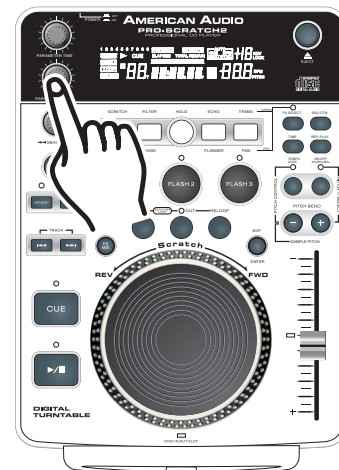

Figure 55
All the effects have adjustable parameters. The parameters change the way the effect will react. To enter the parameters menus for any of the effects, press or turn either of the two *PARAMETER KNOBS (1 OR 3)* as in figure 55. When the parameter mode is selected the time display in the *LCD (19)* will change to indicate the parameter you are adjusting. All effects except the pan effect have two adjustable parameters. Parameter Time (1) and parameter ratio (3). Use these knobs to customize the effects to your liking.